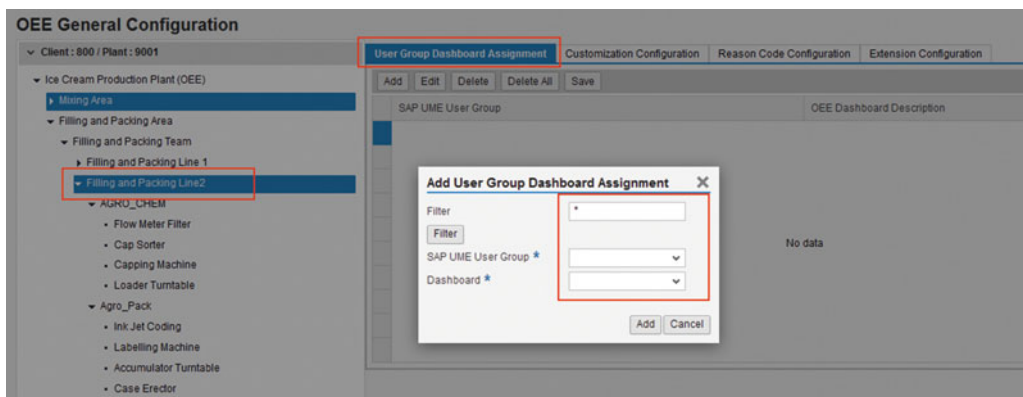

Figure 5-18. User group dashboard assignment: add dashboard
3. Refer to Figure 5-18. Click the Filter button. The SAP UME user group and Dashboard drop-downs appear. The SAP UME user group drop-down lists all the user groups available in NetWeaver UME. The Dashboard drop-down lists the all standard and custom-configured OEE dashboards available in the system. You will learn about OEE dashboard configurations in the next chapter.